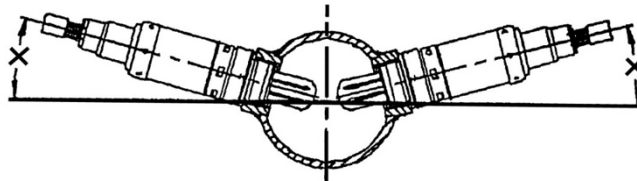

Figure 6
**NOTE:** The oxygen sensor should be mounted in such a way that the condensation in the exhaust tubing will not enter the sensor. Mount the O2 sensor in the upper half of the exhaust tubing, with the angle “x”, shown above, being greater than 10°. **Figure 6** indicates that the sensor can be mounted on either side of the exhaust tubing.